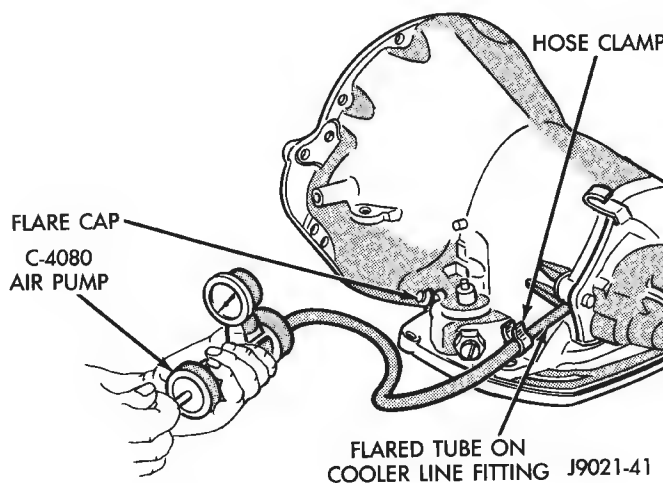

Fig. 16 Pressurizing Transmission
(3) Attach Air Pump 7700 to rear cooler line fitting. Connect length of copper tube to fitting. Then attach air pump hose to tube with hose clamp (Fig. 16).
(4) Apply thick soapy water solution to suspected leak areas.